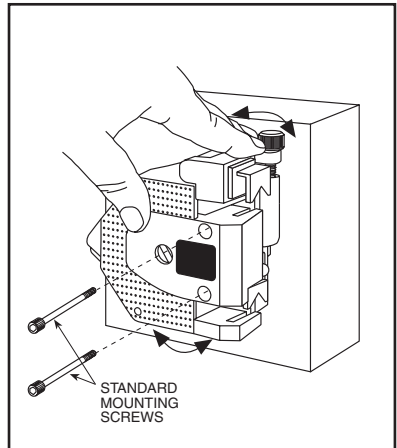

Figure 3-11. Securing the Pump to the Plate
5. Refer to Figure 3-11 and Figure C. Swivel the pump back and forth slightly to align the holes on the back of the base (8) with the pins on the adapter plate. Press the pump base up against the face of the motor.
6. Refer to Figure 3-11. With the pump and motor aligned, insert the mounting screws through the mounting holes in the pump, until they make contact with the threaded mounting holes in the adapter plate.